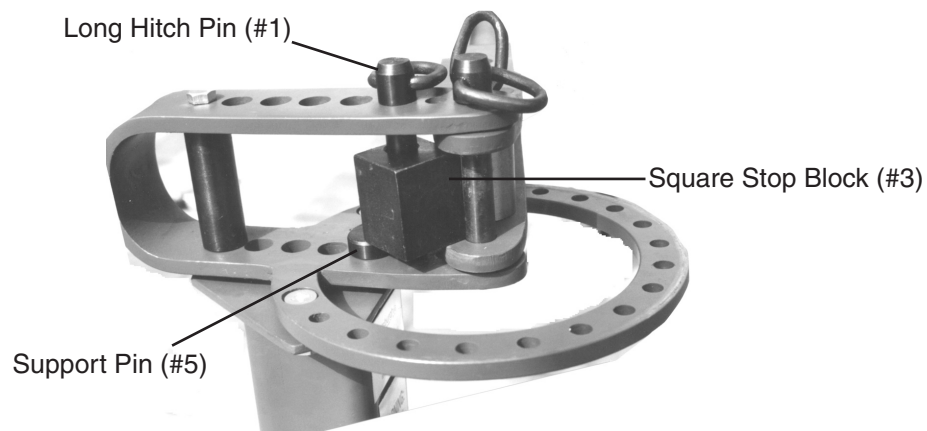

Figure 4
Step 1) Place the Support Pin (#5) into the hole under the Square Stop Block (#3) so that the Square Stop Block (#3) will sit correctly in relation to the Ring Assembly/ Die Receiver-see Figure 4.